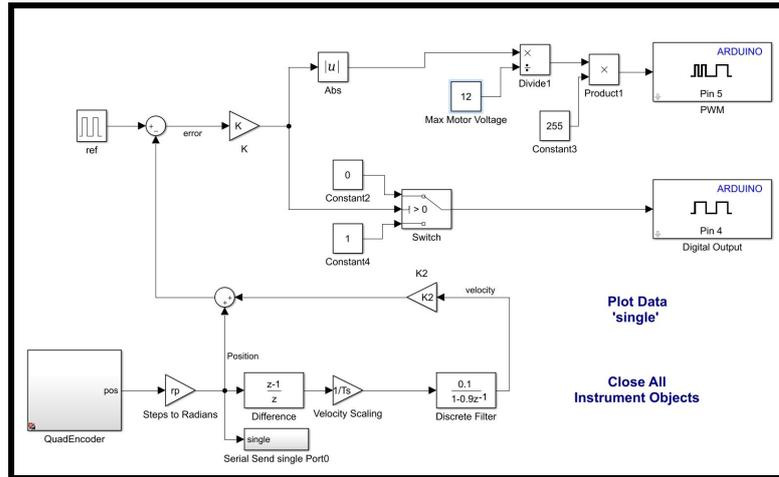

Figure 3.7: Closed Loop Simulink Model for Closed Loop Step Response Experiment
29. Open the Simulink file created in the *Closed Loop Step Response* experiment named **CL_Step_Resp_Arduino.slx**. It should look like Figure 3.7